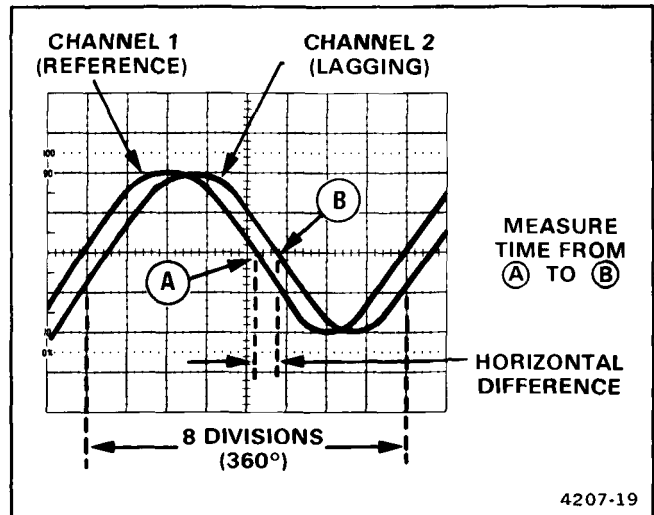
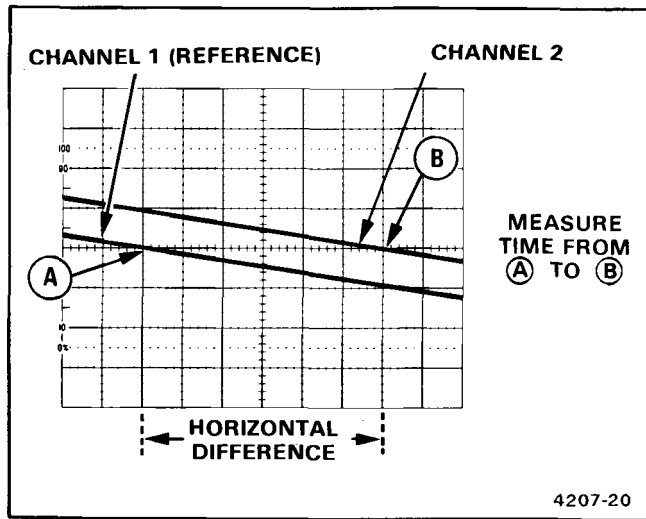

Figure 4-9. Phase difference.
Figure 4-10. High-resolution phase difference.
9. Position the displays and adjust the SEC/DIV Variable control so that one reference-signal cycle occupies exactly 8 horizontal graticule divisions at the 50% rise-time points (see Figure 4-9). Each division of the graticule now represents 45° of the cycle (360° ÷ 8 divisions), and the horizontal graticule calibration can be stated as 45° per division.
**EXAMPLE:** The horizontal difference is 0.6 division with a graticule calibration of 45° per division as shown in Figure 4-9.
**EXAMPLE:** If the sweep speed were increased 10 times with the magnifier (X10 Magnifier out), the magnified horizontal graticule calibration would be 45°/division divided by 10 (or 4.5°/division). Figure 4-10 shows the same signals illustrated in Figure 4-9, but magnifying the displays results in a horizontal difference of 6 divisions between the two signals.